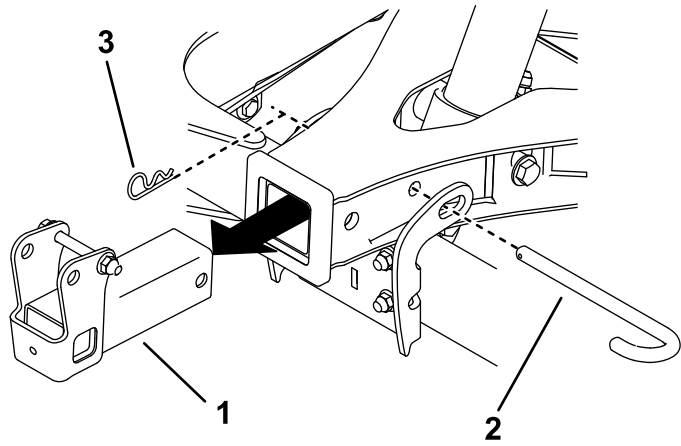

Figure 23
- Remove the hitch pin, cotter pin, and hitch receiver from the A-frame. Install the hitch pin and cotter pin to secure the A-frame (Figure 23).